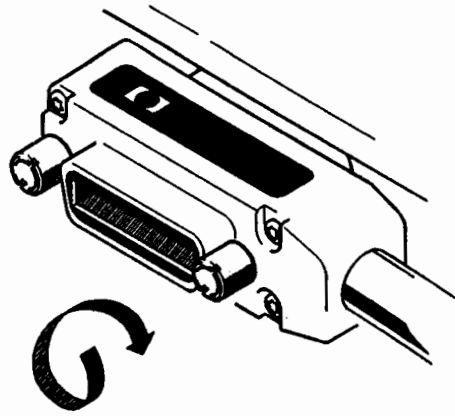

Figure 2-8. Tightening the Retaining Knobs.
- D. Screw in the two retaining knobs on the plug with your fingers to secure the plug. Do NOT use a screwdriver to tighten them, the screwdriver slots are only there as an aid to removal (see fig. 2-8).